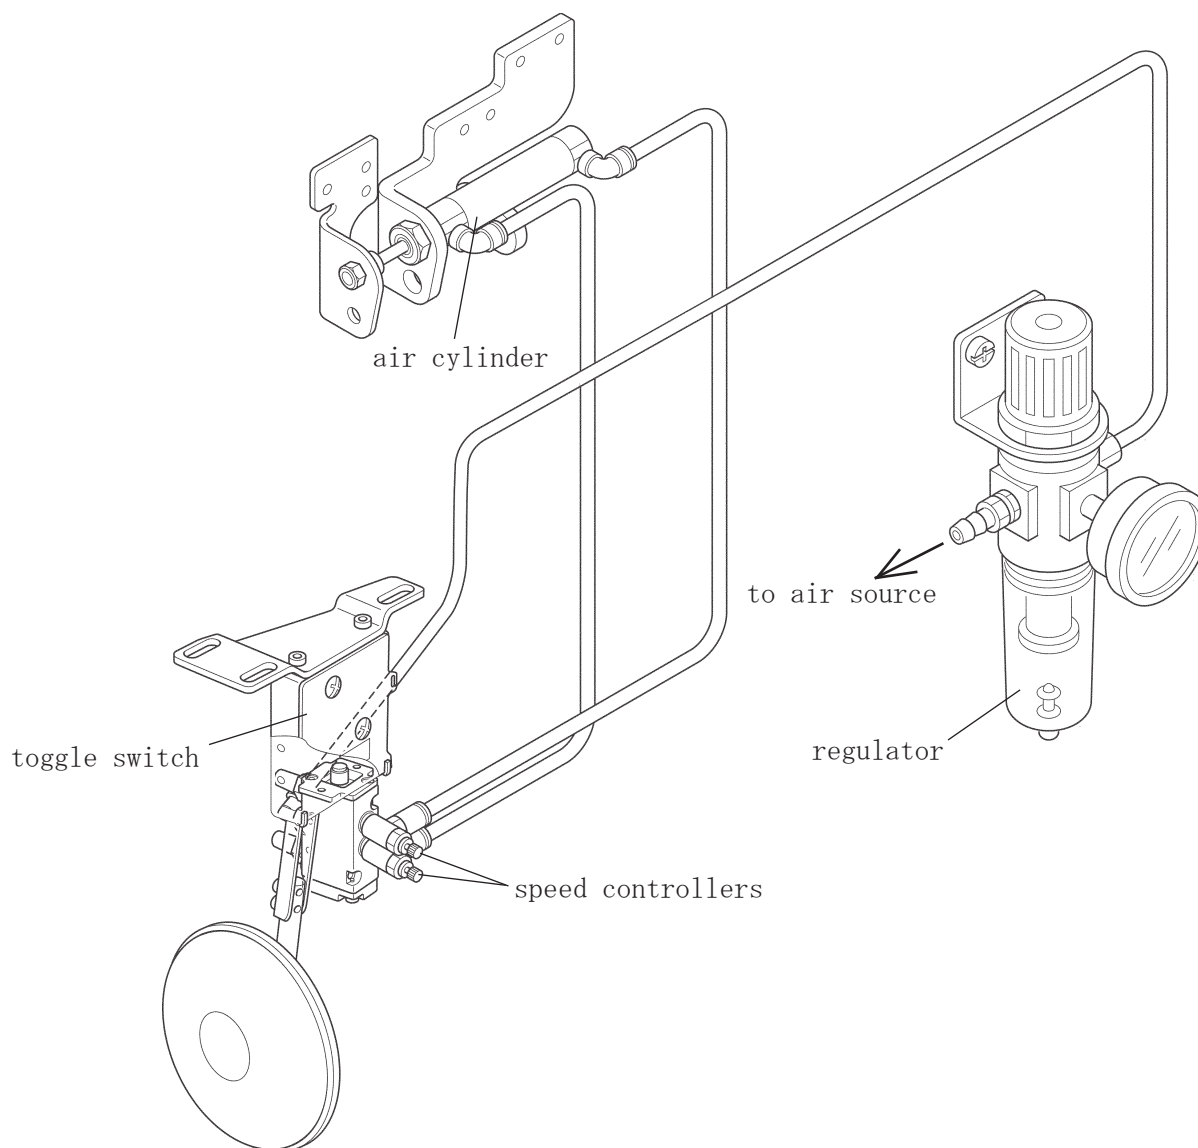

Fig. 1-4
- (1) Set the toggle switch and regulator under the machine table with the wood screws.
- (2) Make air wiring referring to Fig. 1-4.
- (3) Set the air pressure to about 0.2 MPa.